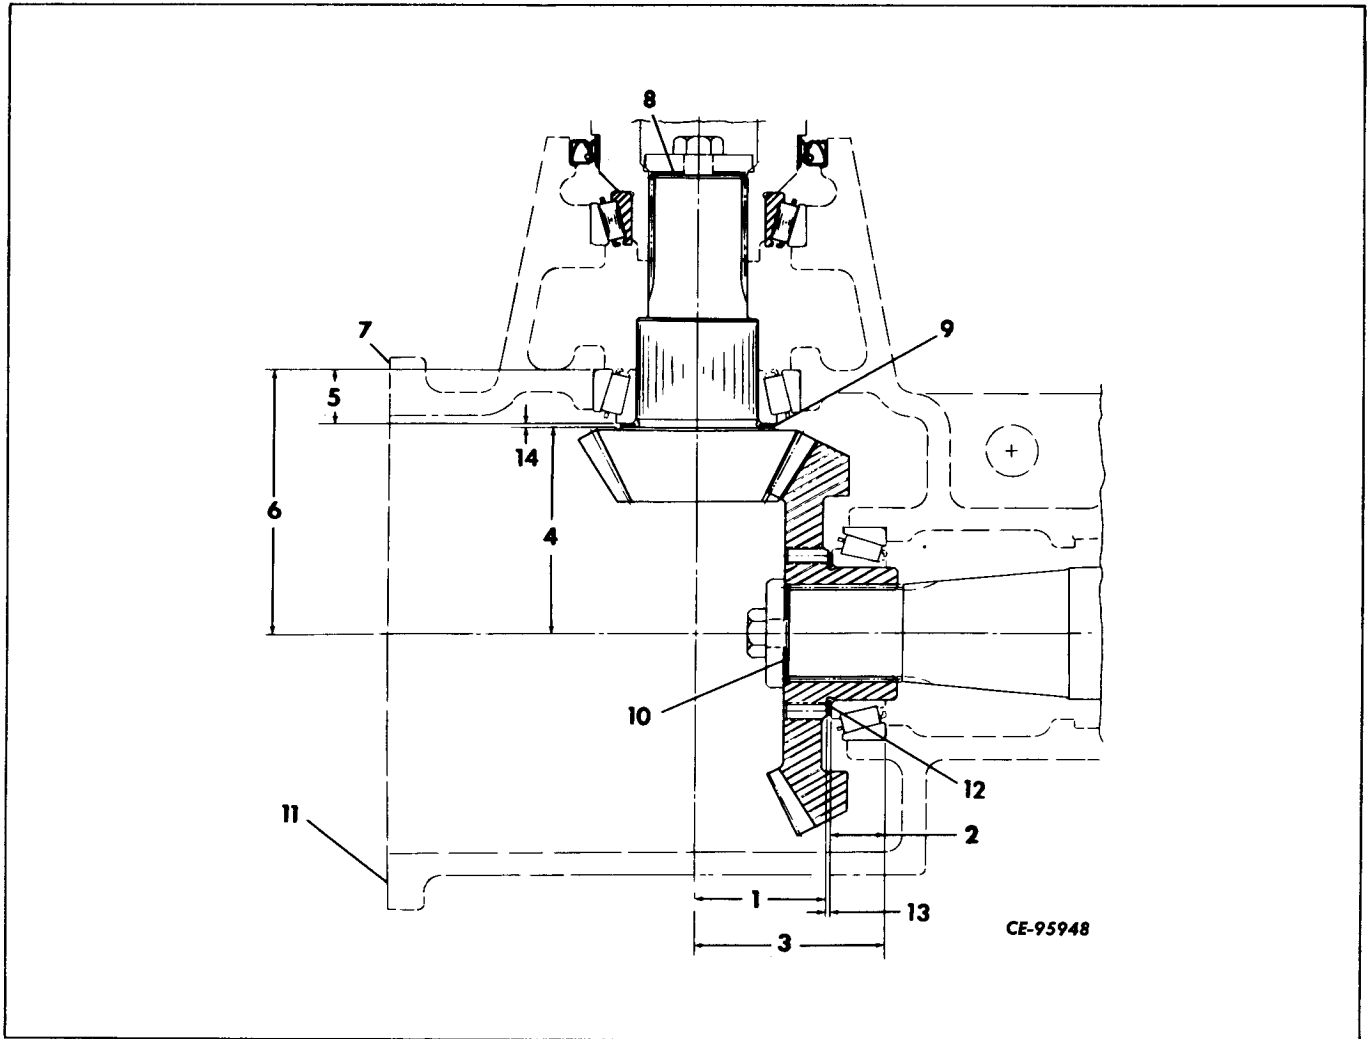

Figure 14-24
gear, subtract dimension (4, Fig. 14-24) (etched on pinion) and dimension (5) bearing height (Refer to "Bearing Height Measurement") from dimension (6), stamped on winch case (7). Dimension (6) minus dimension (4) minus dimension (5) equals thickness of shims required.
Select bevel gear adjustment shims by subtracting dimension (1, Fig. 14-24) (etched on bevel gear) and the bearing height (Refer to "Bearing Height Measurement") dimension (2) from dimension (3), stamped on winch case (11). Dimension (3) minus dimension (1) minus dimension (2) equals thickness of bevel gear adjustment shims (12).